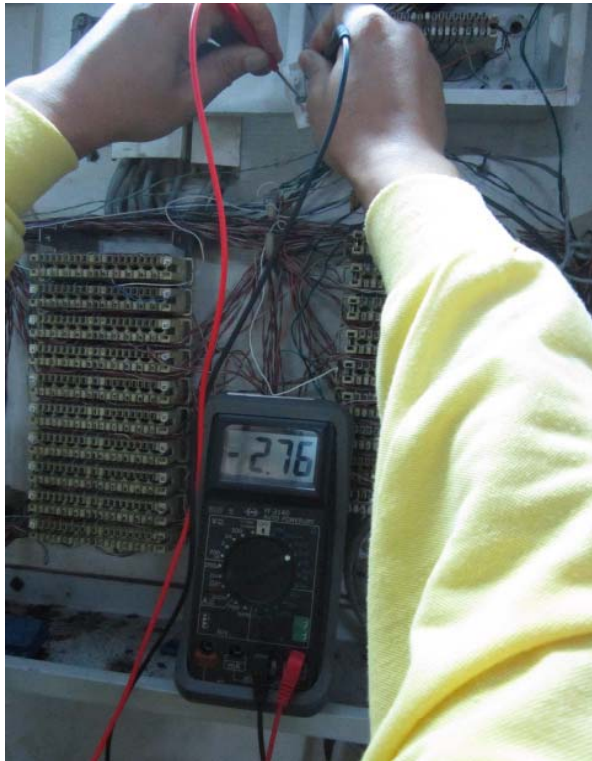

Fig. 1
- Please use your Multimeter as showed in Fig. 1.
The resistance value in Fig. 1 indicated that the value was floating. As the result, there was a very huge difference of SNR Margin values between CO side and CPE side (showed as the following image).